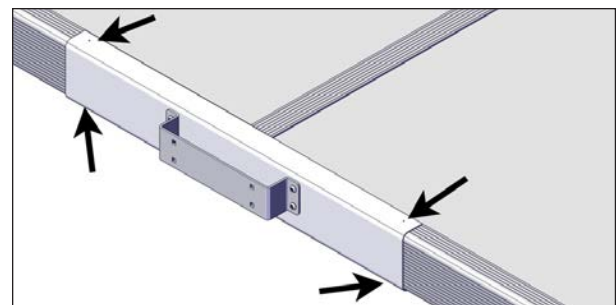
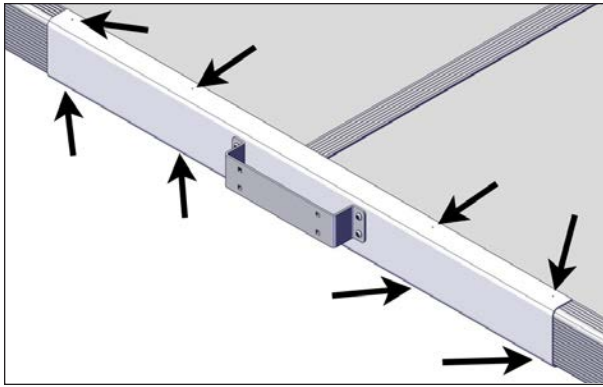

FIGURE 64: LOCATION OF THE DRILLING HOLES (4) IN THE SHORT SUPPORT BRACKET
FIGURE 65: LOCATION OF THE DRILLING HOLES (8) IN THE LONG SUPPORT BRACKET
- Next steps show how to drill holes to install the final screws on the support brackets. There are 4 holes to drill in the short support bracket (Figure 64) and 8 in the long support bracket (Figure 65).